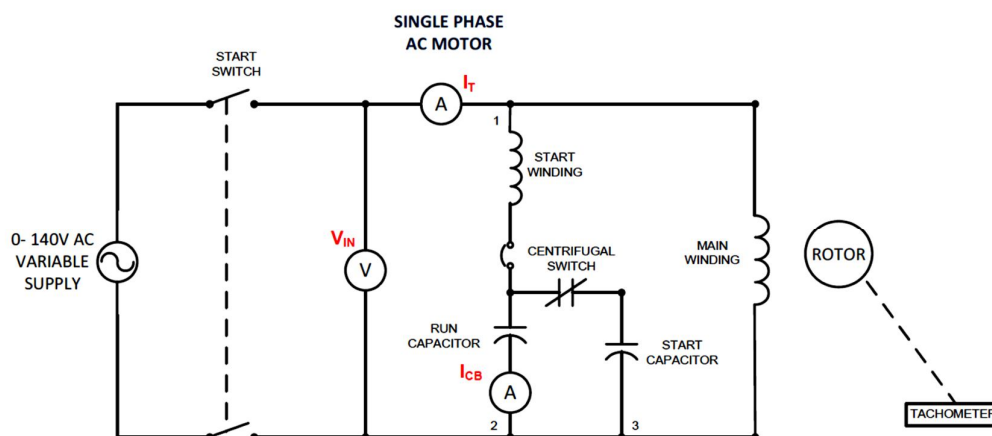

Figure 1.1
1. Connect the circuit of single phase capacitor start capacitor run motor given in Figure 1.1